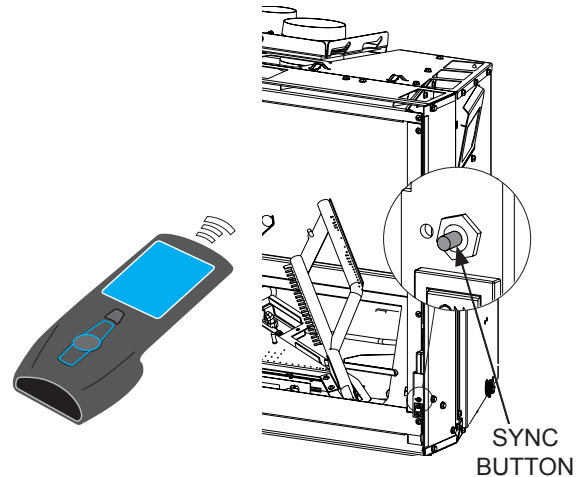

Figure 30
1. Press remote sync button to the right of the insert. **See Figure 30.**